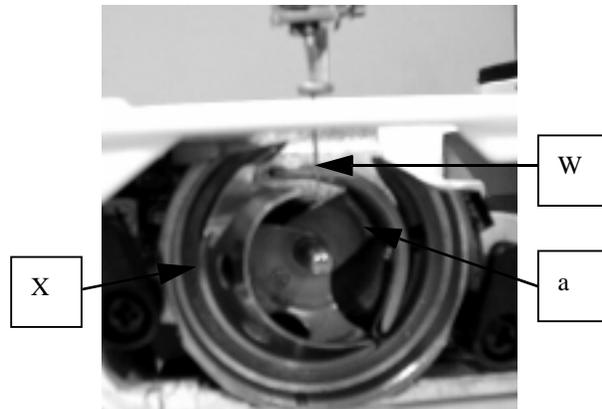

FIGURE 2-15
- Method of easily adjusting the needle displacement quantity / the depth of needle penetration. After setting the needle bar to its lowest position, set the needle and part(a) of hook body(X) to the phase(W) shown in Fig.2-15 by turning the hook shaft gear.